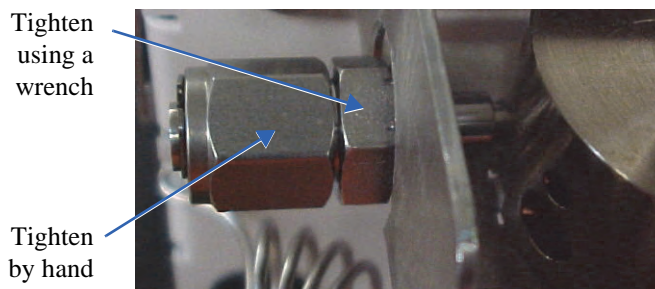

Figure 11.3. Tighten the assembly
- Tighten as indicated in Figure 11.3.